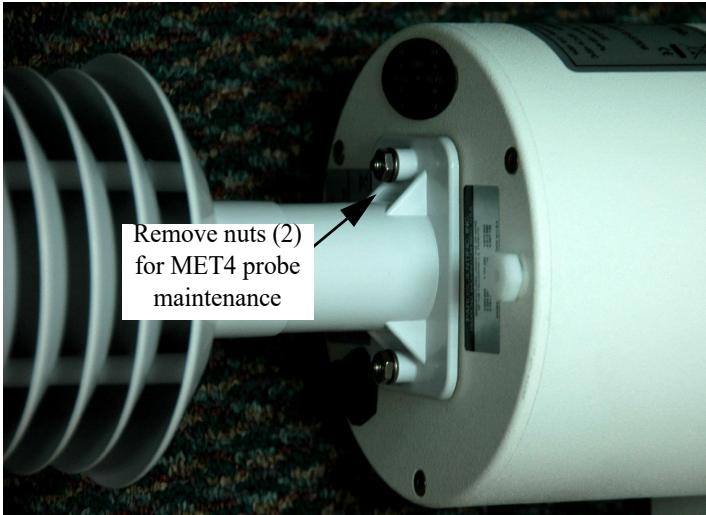

FIGURE 13-1: Gaining Access to MET4 Probe for Maintenance
2. Refer to Figure 13-1 “Gaining Access to MET4 Probe for Maintenance”. Remove the two hex nuts and lock washers securing the solar shield to the bottom of the electronics enclosure.